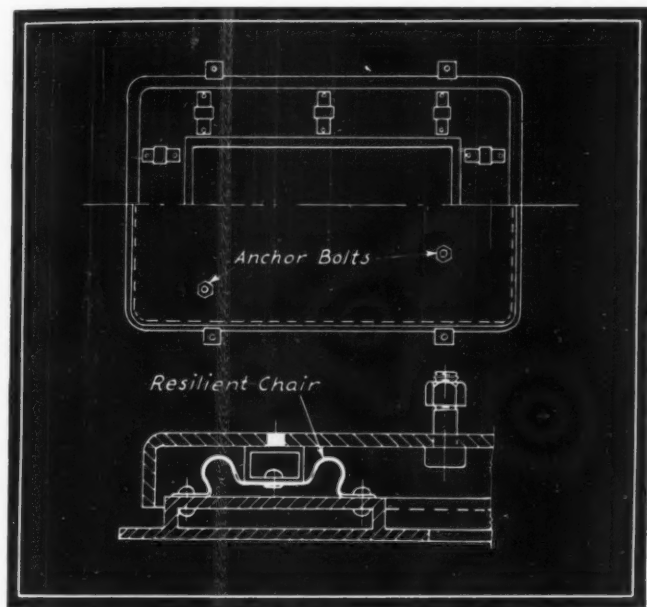

Fig. 2—(Top)—Sound insulative base with section of platform removed. (Bottom)—Section through base
**T**O DEADEN noise and vibration of machinery in order that they will not be transferred to building structures, engineers have sought out various ideas for resilient supports, one of which is the arrangement depicted in Fig. 2. This